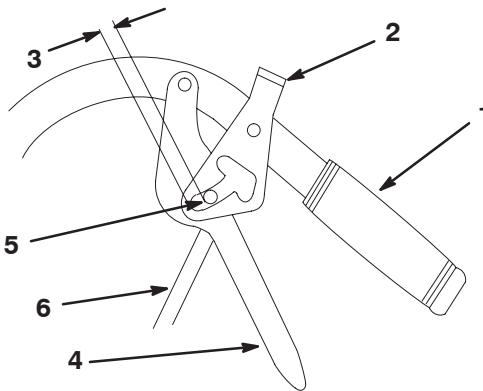

Figure 8
- Adjust the control rod length by threading the rod in or out of the rod fitting until there is a 3/16 to 1/4 inch (5 to 6 mm) clearance between the control rod and the bottom of the neutral/parking brake lock (Fig. 8).
- Adjust the control rod length by repeating steps 3 and 4 (Fig. 8).